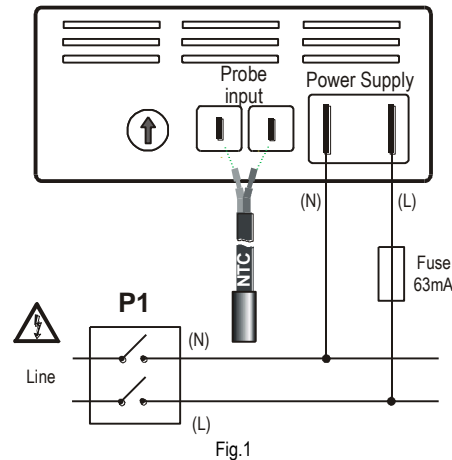

Fig.1
3. INSTALLATION - 230V OR 115V VERSION (FIG.1)
3. **⚠ Disconnect the power supply from the board by means of the panel switch (P1 in Fig.1)**
7. If possible, the manufacturer suggests connecting the phase (L) to the fast-on on the right and neutral (N) to the fast-on on the left as indicated.
4. DISCONNECTION AND PROBE SUBSTITUTION (FIG.1)
1. **⚠ Disconnect the power supply on the board where the instrument is positioned, by means of the panel switch (P1 in Fig.1)**